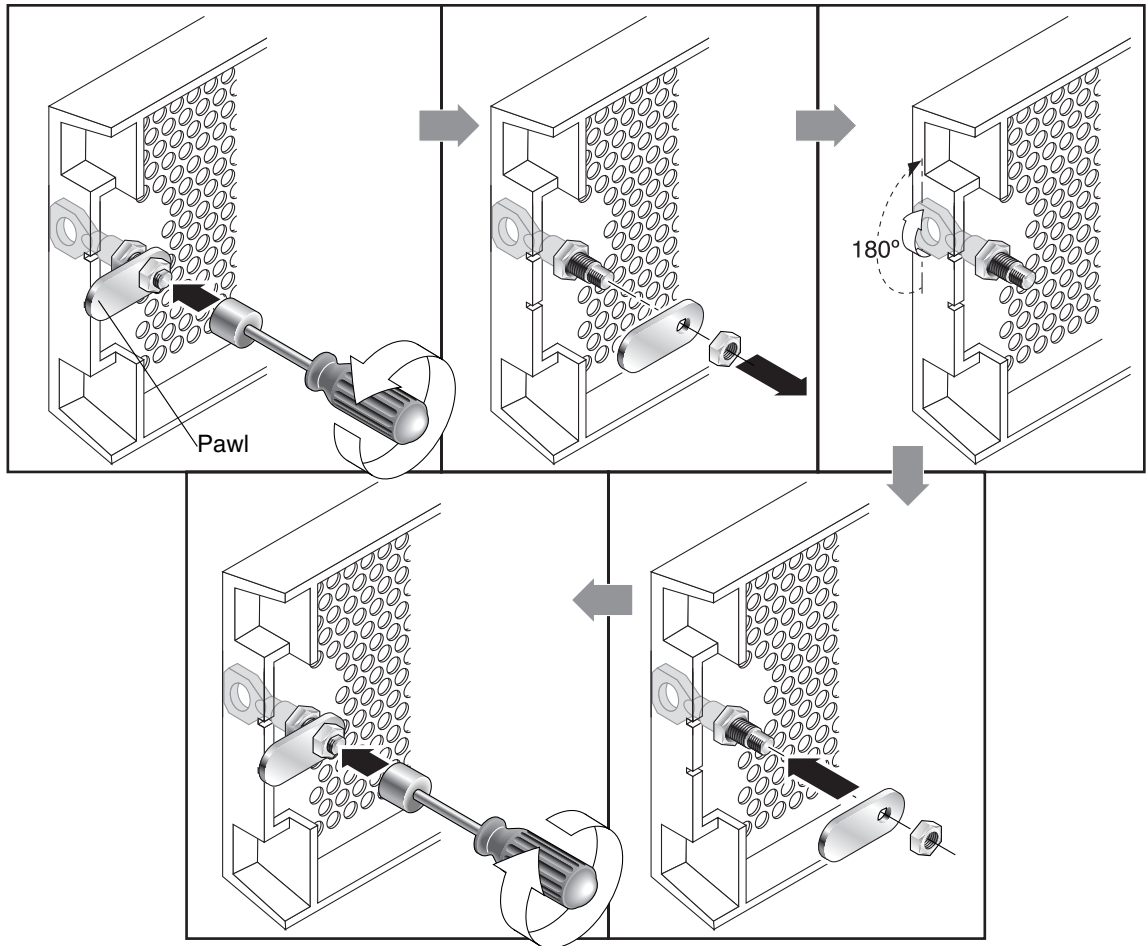

FIGURE 4-2 Sequence of Steps to Change Front Bezel Locks So Keys Cannot Be Removed
1. **Remove the bezel by gently pivoting the swing arms out of their ear sockets, and make sure the key is in the locked position, with the pawl extending horizontally past the edge of the bezel (see the first panel of FIGURE 4-2).**
2. **Hold the key in place and use a 12 mm or 3/8-inch nut driver to remove the locking nut that holds the pawl in place as shown in the first panel of FIGURE 4-2.**
3. Lift the pawl off the threaded part of the lock body, as shown in the second panel of FIGURE 4-2.
5. Use the key to turn the lock 180 degrees, as shown in the third panel of FIGURE 4-2.
6. Replace the pawl in the same orientation as before, as shown in the fourth panel of FIGURE 4-2.
7. Hold the key in place and use the nut driver to refasten the locking nut that holds the pawl in place, as shown in the fifth panel of FIGURE 4-2. Be careful not to cross-thread the nut.